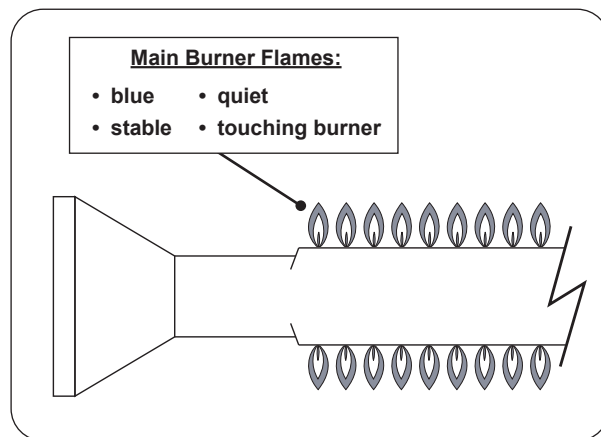

Fig. 42-1 Proper flame appearance
**Note:** To verify proper settings, the flames of the burners should be visually checked for proper flame appearance and behavior. Light the grill with the burner(s) on HI setting. Allow at least 2 minutes to burn. See below and Fig. 42-1. The flames should:
2. After burning for two minutes, open the air shutters **using the adjustment levers** until the flames lift off, or appear not to be touching the burners (Fig. 42-1).